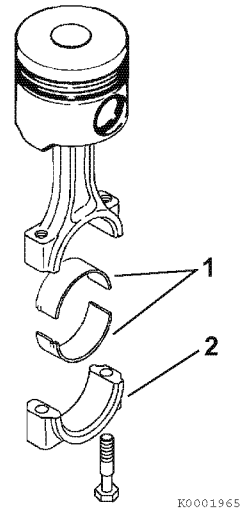

Figure 6-93
4. Reinstall the bearing inserts (**Figure 6-93, (1)**) in the connecting rod and cap.
6. Apply a light coat of clean engine oil to the rod cap bolts. Reinstall the connecting rod cap (**Figure 6-93, (2)**). Tighten the connecting rod bolts to the specified torque in two stages (1/2 then full torque). *See Special Torque Chart on page 6-10 for specifications.*